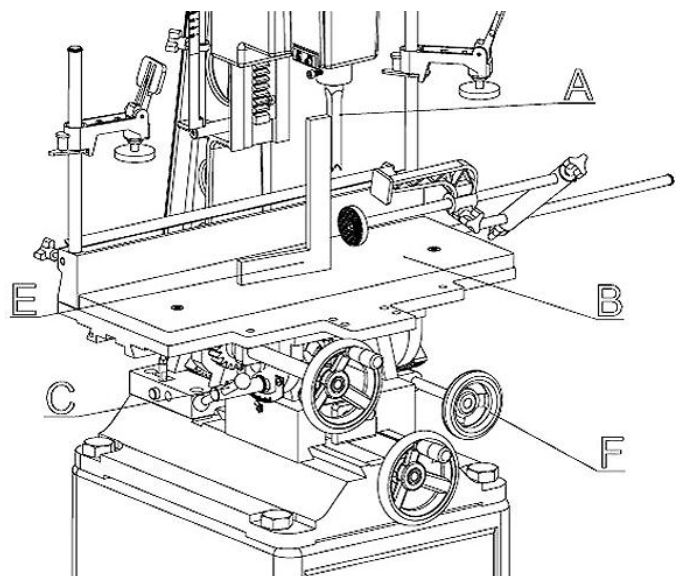

Fig 7
Referring to Fig 7: Place a square (E) so it rests against the worktable (B) and chisel (A). If the chisel to table angle is 90°, no calibration is necessary.